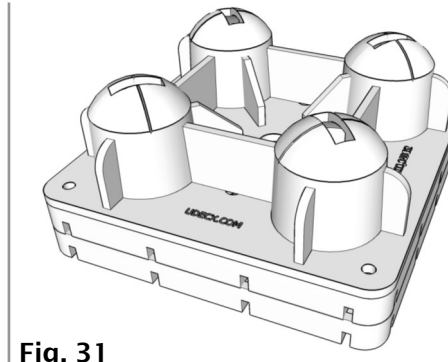
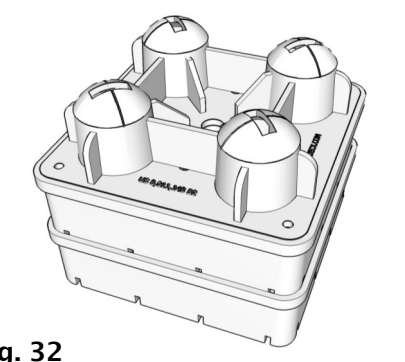

Fig. 31
Fig. 32
- 14.** **DO NOT** place more than two 1" Shims (G) (Fig. 31) or two 3" Risers (H) below any Pier (A). (Fig. 32)